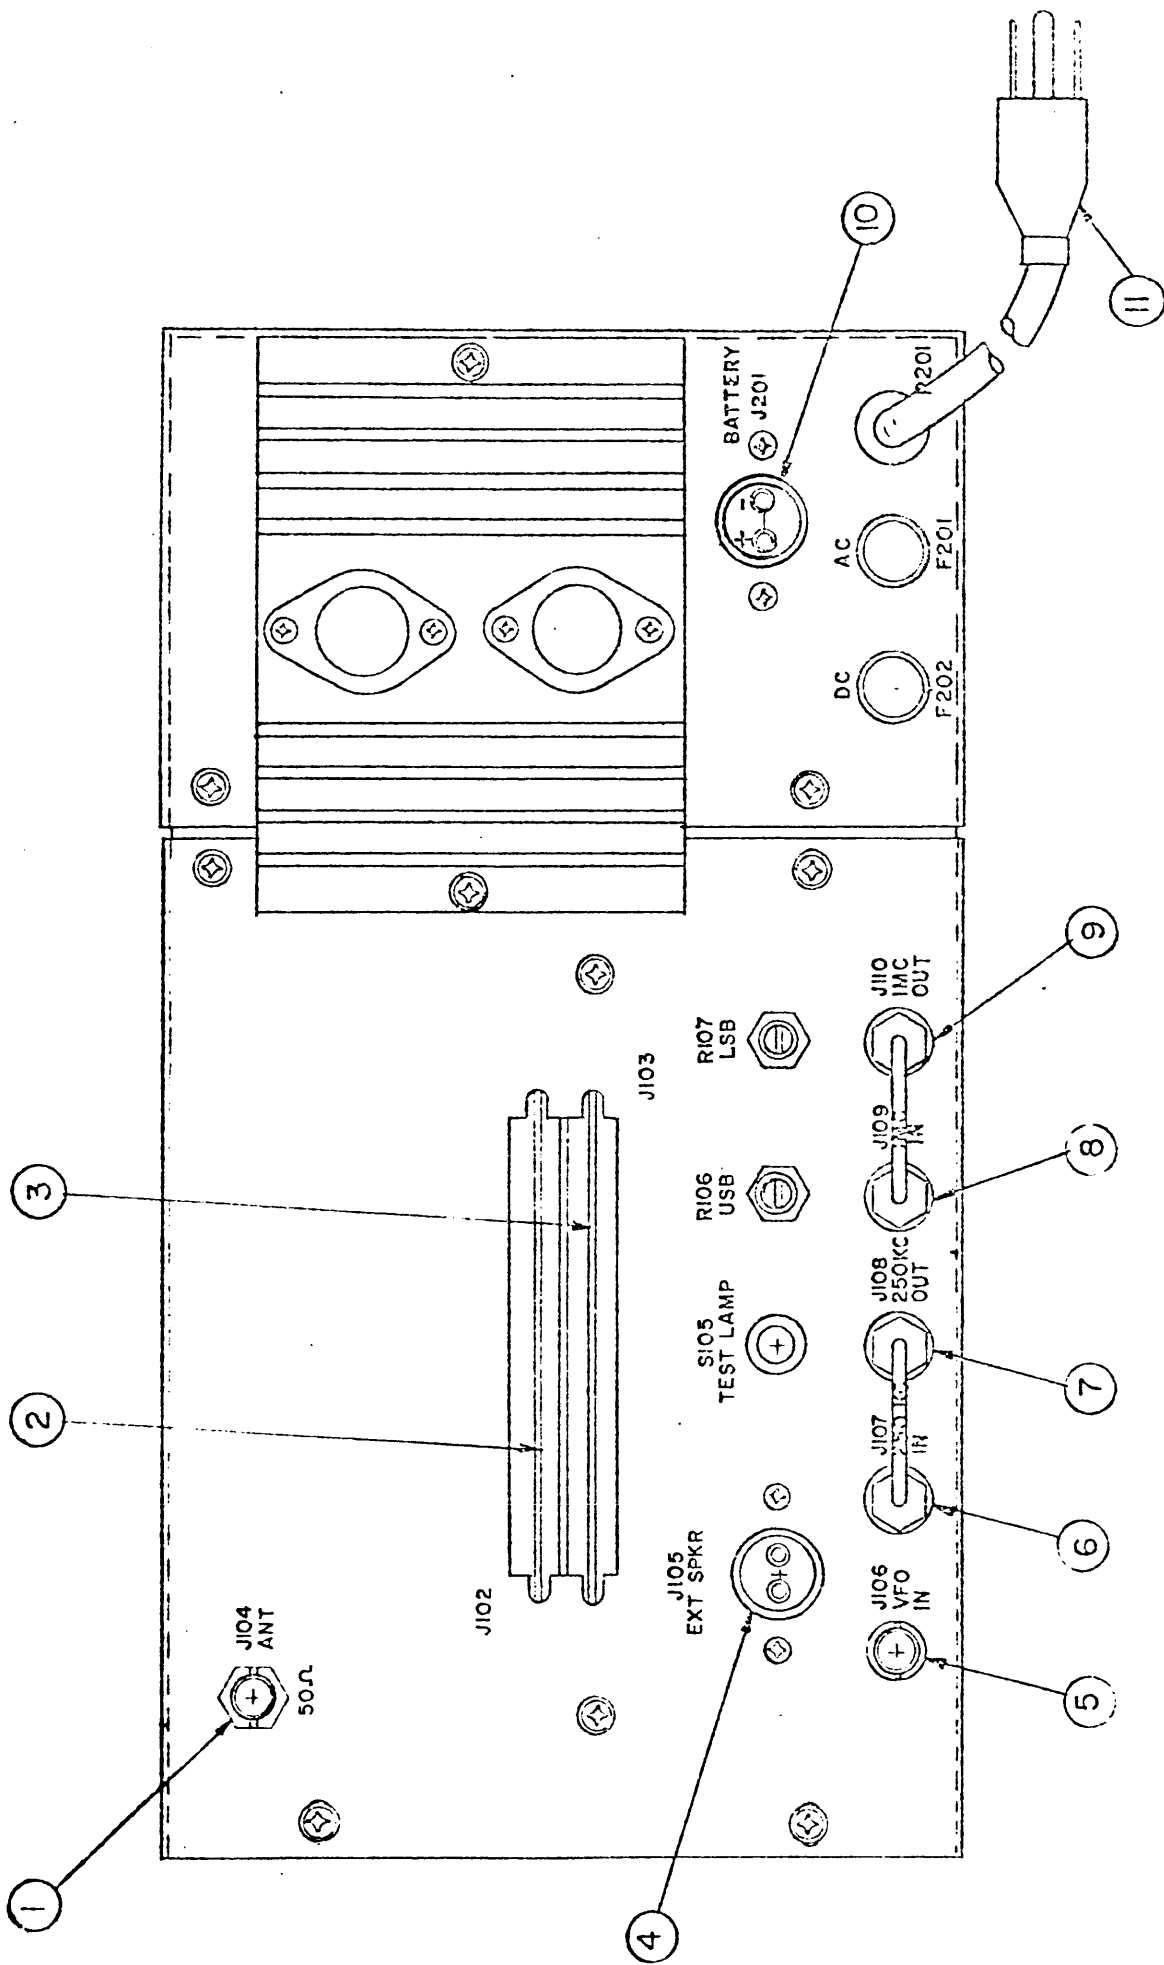

Figure 2-3. GPR-110 Receiver, Rear-Panel
(3) Position the unit-mounted sections of the slides in the tracks of the rack-mounted sections, and slide the receiver into the rack until the release buttons of the slides engage the holes in the tracks.
(4) Insure that one end of the coaxial jumper (located on rear panel) is connected to the 250 KHz OUT jack J108, and the other end to the 250 KHz IN jack J107.
(5) Insure that one end of the coaxial jumper (located on rear panel) is connected to the 1 MHz OUT jack J110, and the other end to the 1 MHz IN jack J109.
c. ELECTRICAL INSTALLATION. For electrical installation of the GPR-110B receiver refer to figure 2-3, which locates the input and output connectors on the rear panel, and to table 2-2, which lists the function of each connector shown in figure 2-3. Reference should also be made to figure 2-4, the inter-connect wiring diagram for the receiver, and to paragraph 2-5 d for fabrication of cables required for specific installations. Electrically install the receiver by performing the following procedural steps. -
(1) Connect the antenna cable to the ANT input jack J104.
(4) DC Power Cable. Using a screwdriver or the flat blade of a knife, separate the polarized 2-pin plug from BATTERY jack J201 (refer to figure 2-3). Observe polarity and solder the plug on the end of two No. 14 wires long enough to reach the 12-volt battery or dc power source for the receiver.